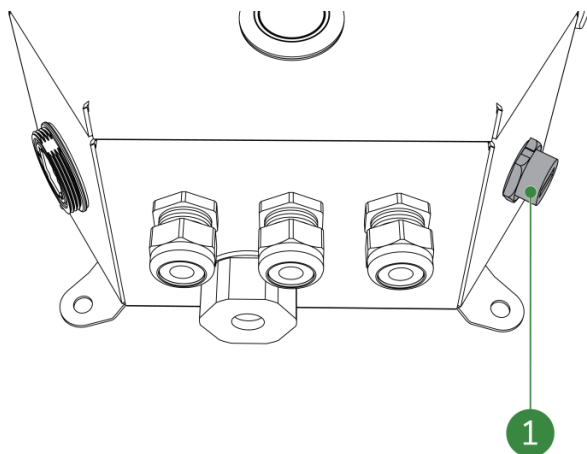

Figure 8-18: USB-port
2. Place the USB stick into the USB-port (Figure 8-18, pos. 1) with the Sessionsetting.json file.